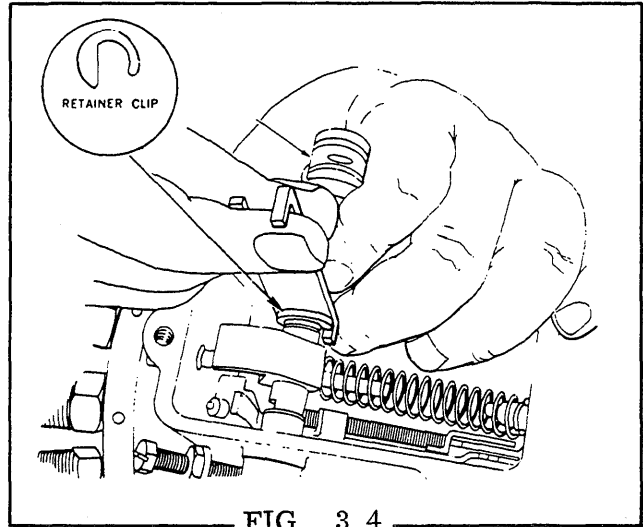

FIG. 3.4
STEP 4 Remove the throttle shaft retainer clip by rotating the throttle lever to the full run (W.O.T.) position. Place tool No. 20992, with tab beneath the shorter leg of the retainer clip, on the throttle shaft and pry gently, sliding the clip off the shaft assembly. (Fig. 3.4) discard the retainer clip.